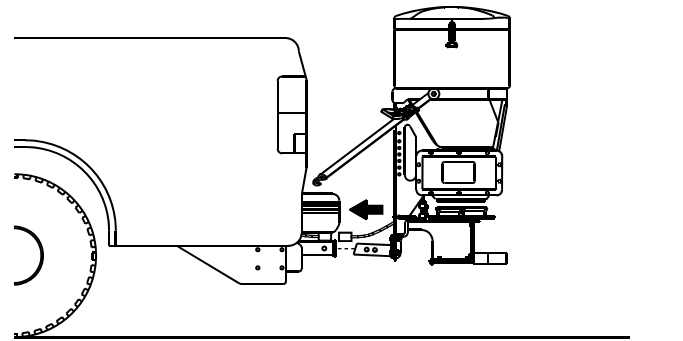

Figure 6
2. Slide the hitch on the spreader into the receiver hitch of your vehicle and line up the second hole on the spreader hitch with the hole in the hitch of your vehicle (Figure 6).